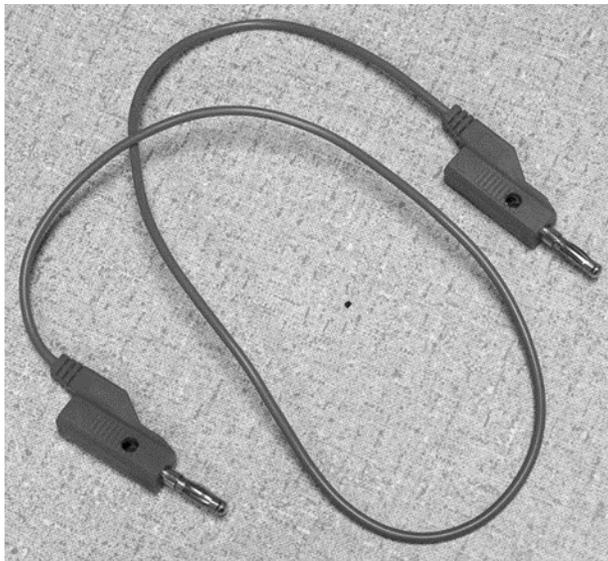

Figure 1-1 Banana lead
4. Connect a banana lead (Figure 1-1) between the + and – output terminals of output 1.